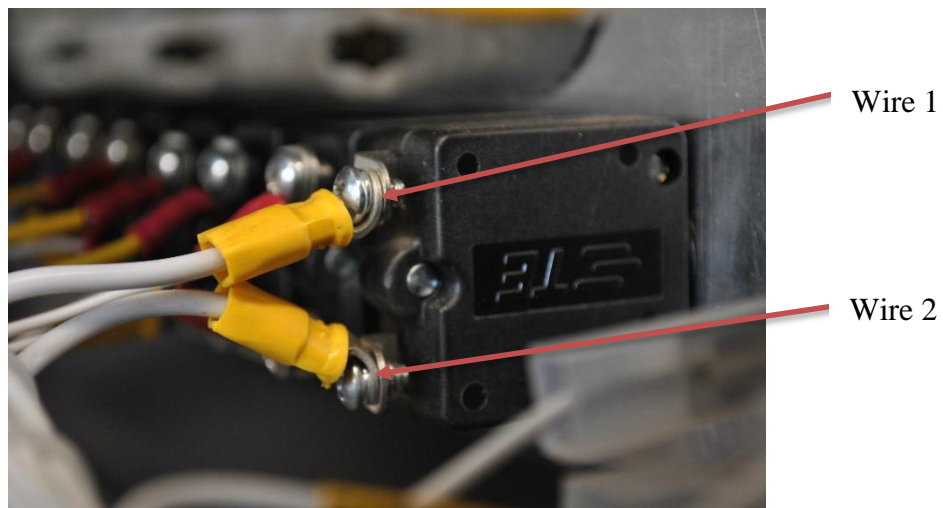

Figure 2: Correct master switch
2. With reference to figure 2, if the master switch is manufactured by Tyco Electronics, it is correct and this service bulletin does not apply but an entry should be made into the airframe logbook. Should a different make of switch be installed please contact the Airplane Factory for further information.
10. With reference to figure 2, which is the correct switch, tighten the screw, spring washer and 4 mm yellow ring terminal to the master switch